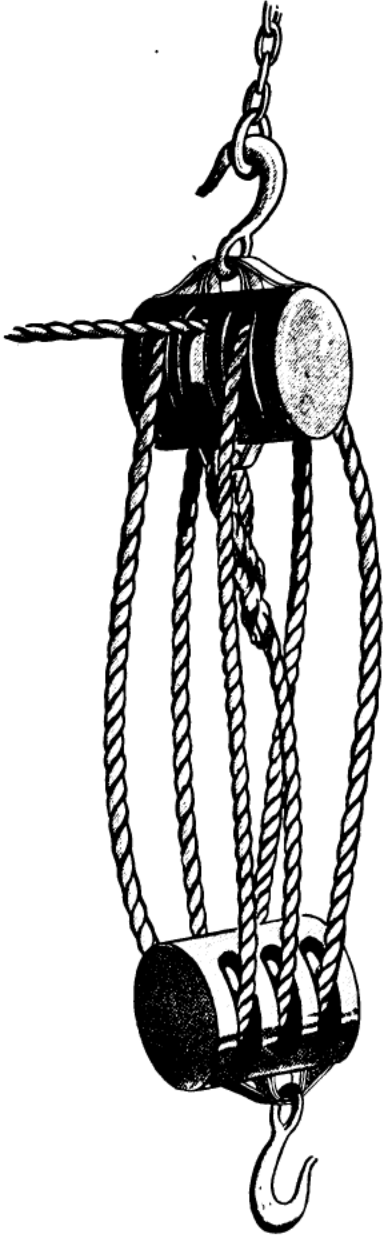

Figure 105.
3. What is the mechanical advantage of the tackle shown in figure 105?